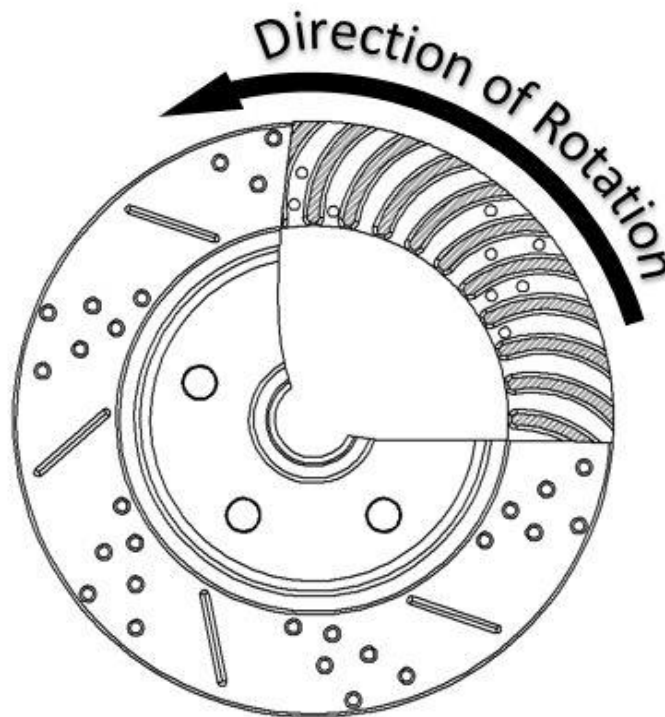
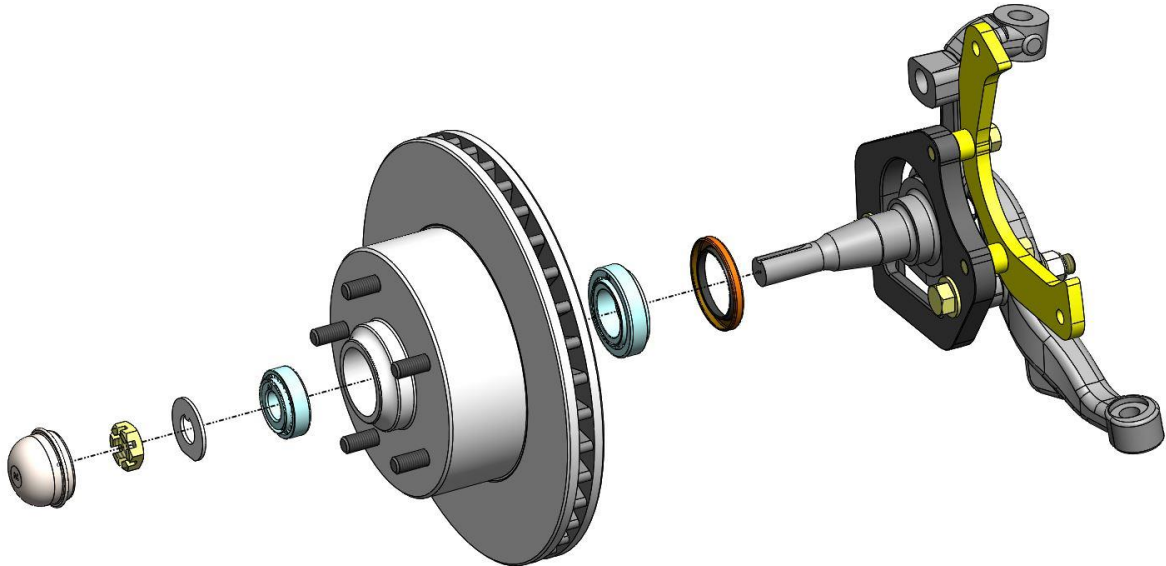

Figure 5 – Rotor Orientation
Figure 6 - Rotor Installation (Driver Side F-Body Spindle Steer Arm Shown Above)
- Slide the rotor onto the spindle. The inner wheel bearing and grease seal should be installed at this point. With the rotor fully pushed onto the spindle, install the outer wheel bearing followed by the keyed washer and the spindle nut. When tightening the spindle nut, tighten to 5-10 ft/lbs. Loosen the nut and tighten again using the same 5-10 ft/lbs. Do this a couple of times spinning the rotor to fully seat the wheel bearings onto the spindle. Loosen the nut a final time and re-tighten to remove all play. Tighten approximately an additional 1/16th of a turn to give the appropriate pre-load and line up the cotter pin hole. Install the cotter pin to secure the nut followed by the grease cap. Figure 6 on the next page shows the rotor installation. **IMPORTANT:** If using slotted and drilled rotors, pay close attention to Figure 5 below for proper rotor placement on the driver and passenger side.